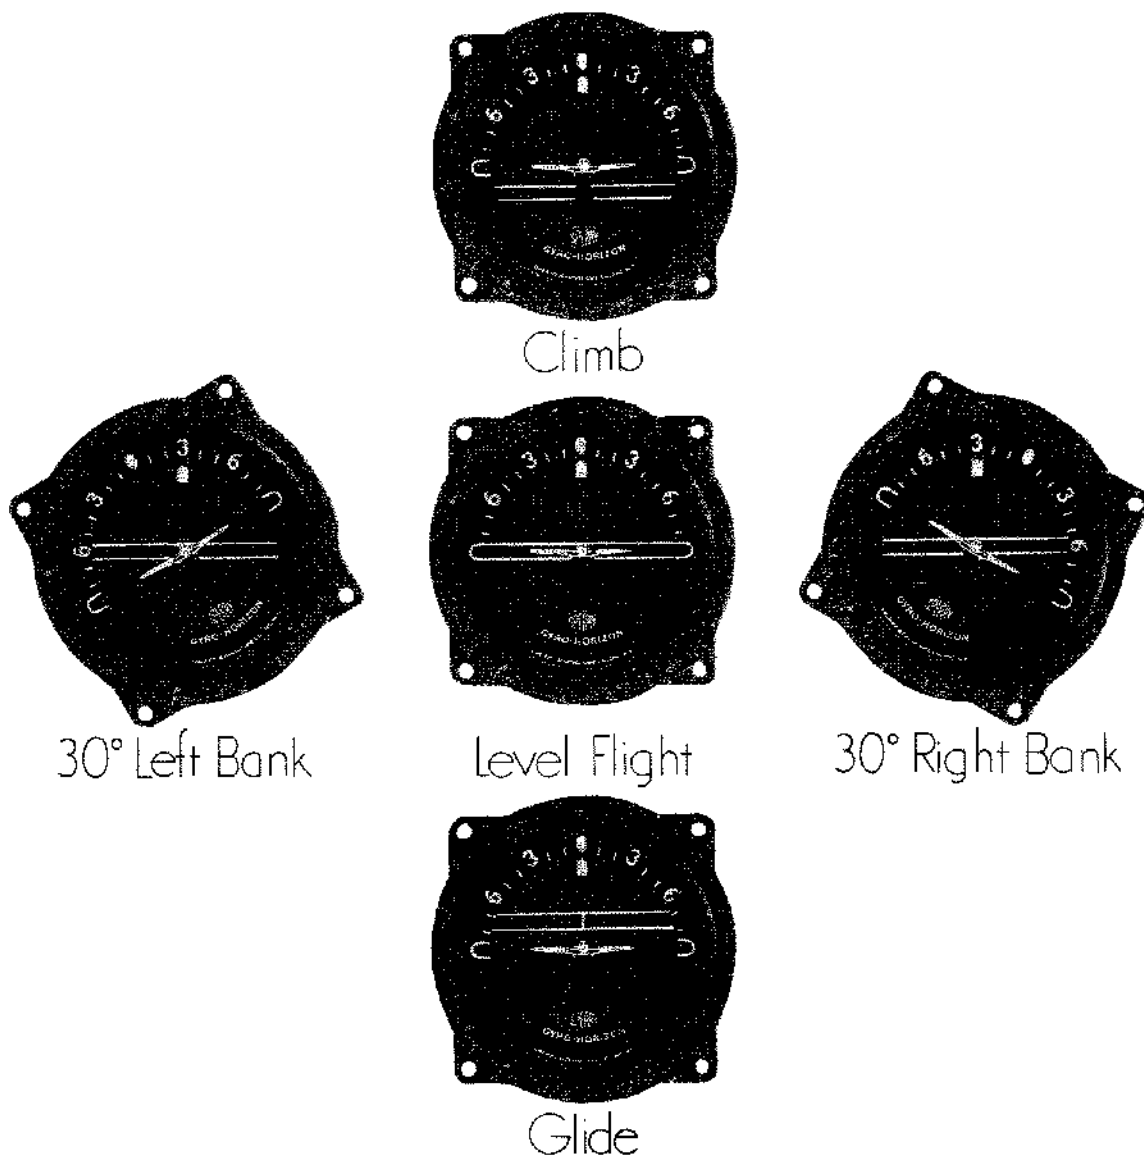

FIGURE 56 INDICATIONS OF THE GYRO-HORIZON FOR FIVE ATTITUDES OF FLIGHT
1. The Gyro-Horizon provides a horizon bar, which remains coincident with the natural horizon through all the usual maneuvers of banks, climbs, glides or turns. It has no time lag, and the pilot can manipulate his controls to bring his ship to any desired attitude by noting the relation of the miniature airplane with respect to the horizon bar. Wing low, climb or glide is shown by this instrument in exactly the same relation as when using the natural horizon. (See Fig. 56.)